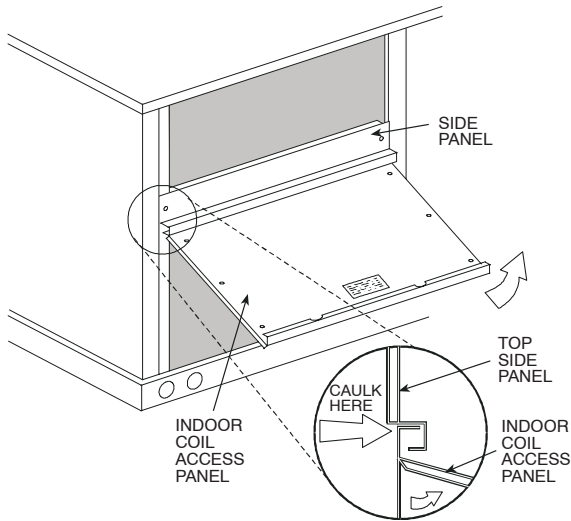

Fig. 24 – Indoor Coil Access Panel Relocation
3. The indoor coil access panel will be used as the top of the hood. Remove the screws along the sides and bottom of the indoor coil access panel. (See Fig. 24.)
8. Caulk the ends of the joint between the unit top panel and the hood top. (See Fig. 24.)